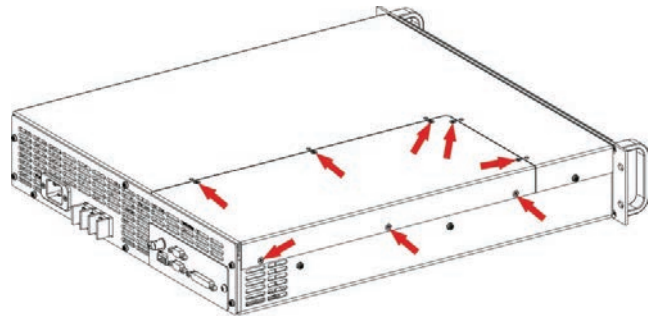

Figure 4.1 – Access Panel Screw Locations
1. Locate the Access Panel as shown in **Figure 4.1**. Make sure that all 8 screws are accessible. Remove the unit from its rack, if necessary.